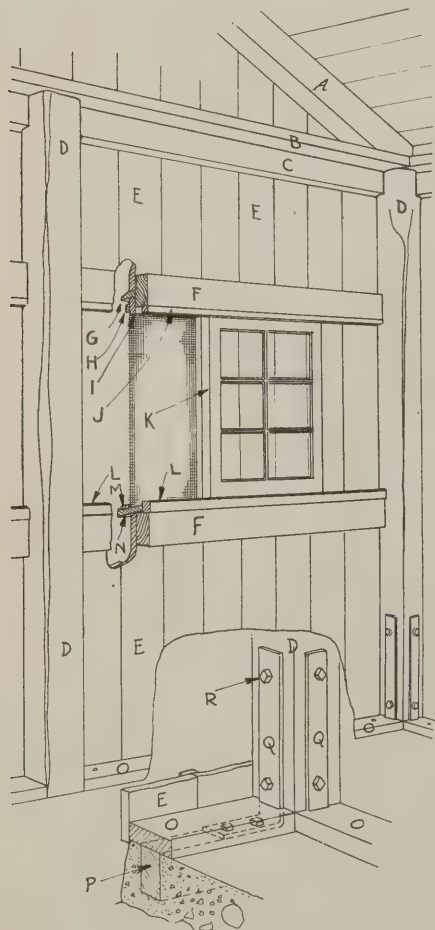

Fig. 4—Framing of the shelter wall, showing window
G. L. writes: "This last spring I had two park shelters to build. They are about 20x24 ft., unfinished and open to the rafters, but are very substantial as to framing, for they must stand very windy weather at times, and are expected to last a long time. Referring to Fig. 4, the foundation and floor are concrete, bedded in small rock and finished up to outside dimensions. Around the outer edge, except at the threshold, a 2x4, P, is bedded in under the plate, O. The framing consists of the posts, D (placed about 5 ft. centers at the ends and 6 ft. centers at the sides), which rest on the concrete and carry the plates, B, and the girts, F. The plates are 2x10 with a 2x4 above. The girts are 2x4 let into the posts. The rafters are stripped cedar, roughly faced to take the sheathing, and running a little less than 6 in. at the butt or rafter seat. At the edge of the plate the rafters are notched to take the wall sheathing which runs up tight under the roof sheathing.
the front, two either side of the door. As shown in the picture, Fig. 4, the sash, K, slides between the upper rail, J, and the lower rail, L. These are nailed to the girts. The strap, I, is also nailed to the girt, and the cap, G, separates it from the sheathing. The sill, N, is nailed to the lower girt. This sill is cut to sit around the sheathing and runs back the full length that the sash will slide. Screening was lathed to stop, sill and sheathing was cheaper and more renewable than complete screens. This is shown at H and M.
"When it came to the door I figured that, what with the children running in and out and slamming, I had better make the door and framing both solid enough to take the shocks. As is shown in the picture, Fig. 4, the two posts, S, are roughly 8x8 in. The header, T, is the same. These pieces are in the rough but very sound timbers. A stop, U, was run so as to let the door set in far enough so that the rails would be flush with the posts. Heavy hinges were used. The latch was pretty heavy, too, and sunk in the post opposite, as at W.